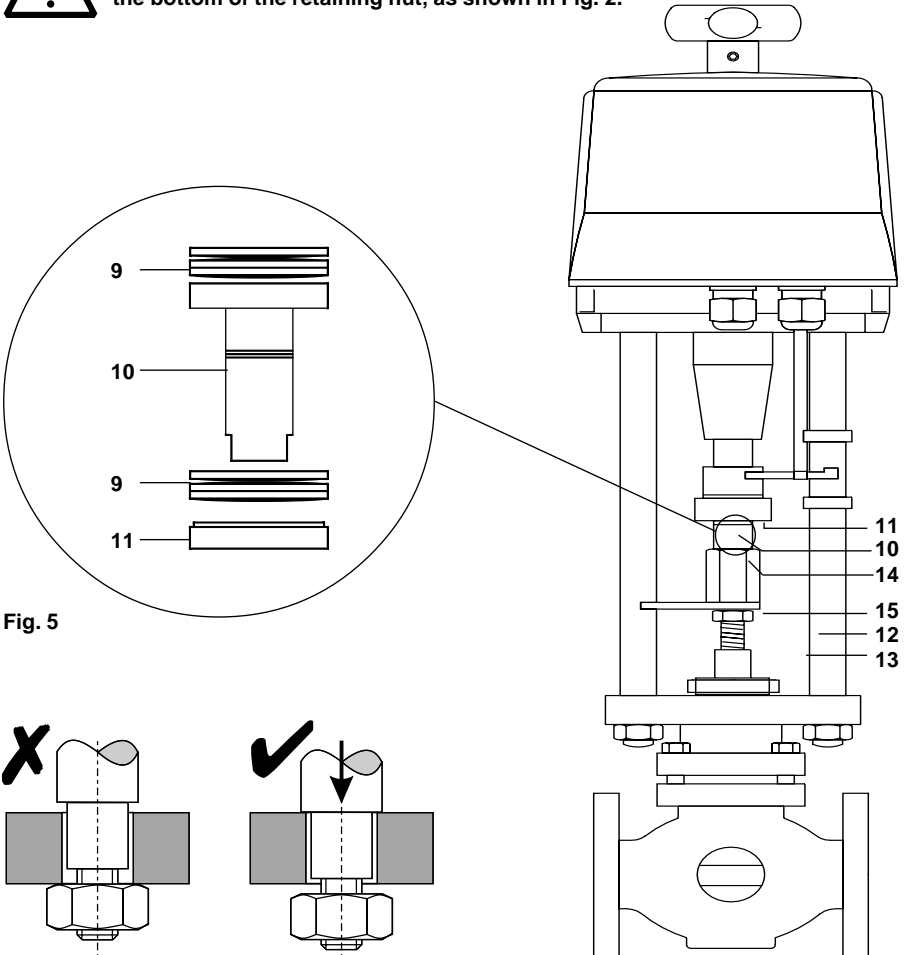

Fig. 5
There are 2 sets of 3 disc springs, which must be assembled in the correct order. The convex side of a spring must be assembled to the convex side of the next spring. Conversely, the concave side of the spring must be assembled to the concave side of the next spring. Insert the first set of springs (9, see Fig. 5) inside the actuator adaptor mounting. Next push the valve adaptor (10) inside the actuator mounting so that the springs are pushed up to the top. Push the second set of disc springs (9) over the adaptor nut (11) into the actuator by hand. The nut should be screwed in until the adaptor is held firmly inside the actuator, but not too tight such that the adaptor cannot be rotated.